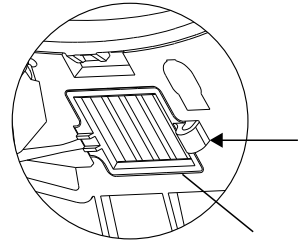

Fig 3
- Remove old cartridge (fig 3), adjust next cartridge exchange due date (fig 4). Install new cartridge and tighten as shown (fig 5).
- At the tip of cover bottom, unbuckle to remove deodorizer screen (fig 3).